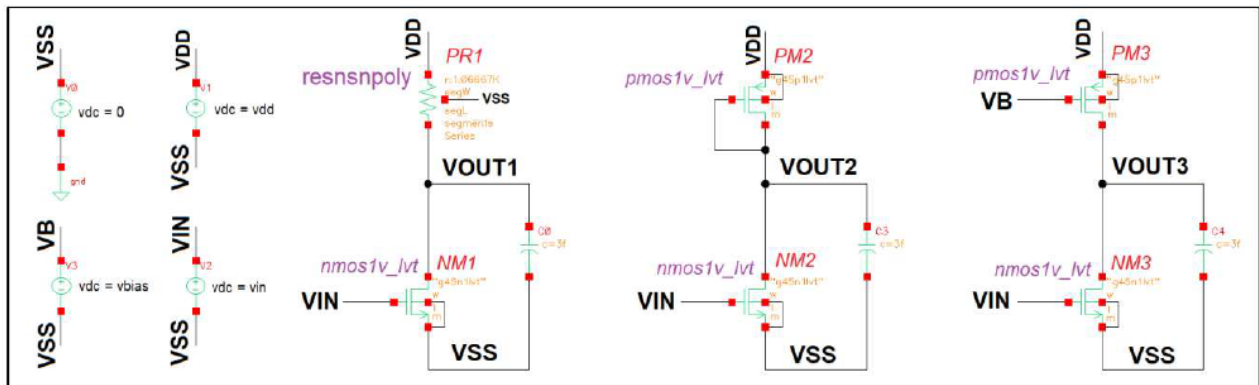

Figure 1. Common source stage schematic for DC analysis
1.3. Instruction: Assemble the circuit as shown in **Figure 1**, setting parameters for power supplies (using *vdc* source), with $L_n = L_p = 45\text{nm}$, $W_{n,\text{unit}} = W_{p,\text{unit}} = 120\text{nm}$, $v_{dd} = 1.0\text{V}$, $V_{bias} = 0.6\text{V}$, $C_{load} = 3\text{fF}$.
2.3. Instruction: Assemble the circuit as shown in **Figure 1**, setting parameters for power supplies (using **vdc** source), with $L_n = L_p = 45\text{nm}$, $W_{n,\text{unit}} = W_{p,\text{unit}} = 120\text{nm}$, $v_{dd} = 1.0\text{V}$, $V_{in,DC} = 0.7\text{V}$, $C_{load} = 3\text{fF}$.